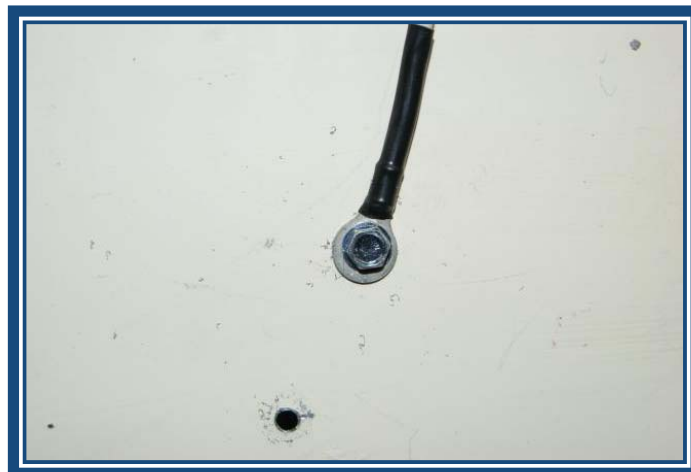

Figure 28
**Step 28:** Connect the white chassis ground wire (9) to a good chassis ground on the front of the trailer. (See Figure 28)